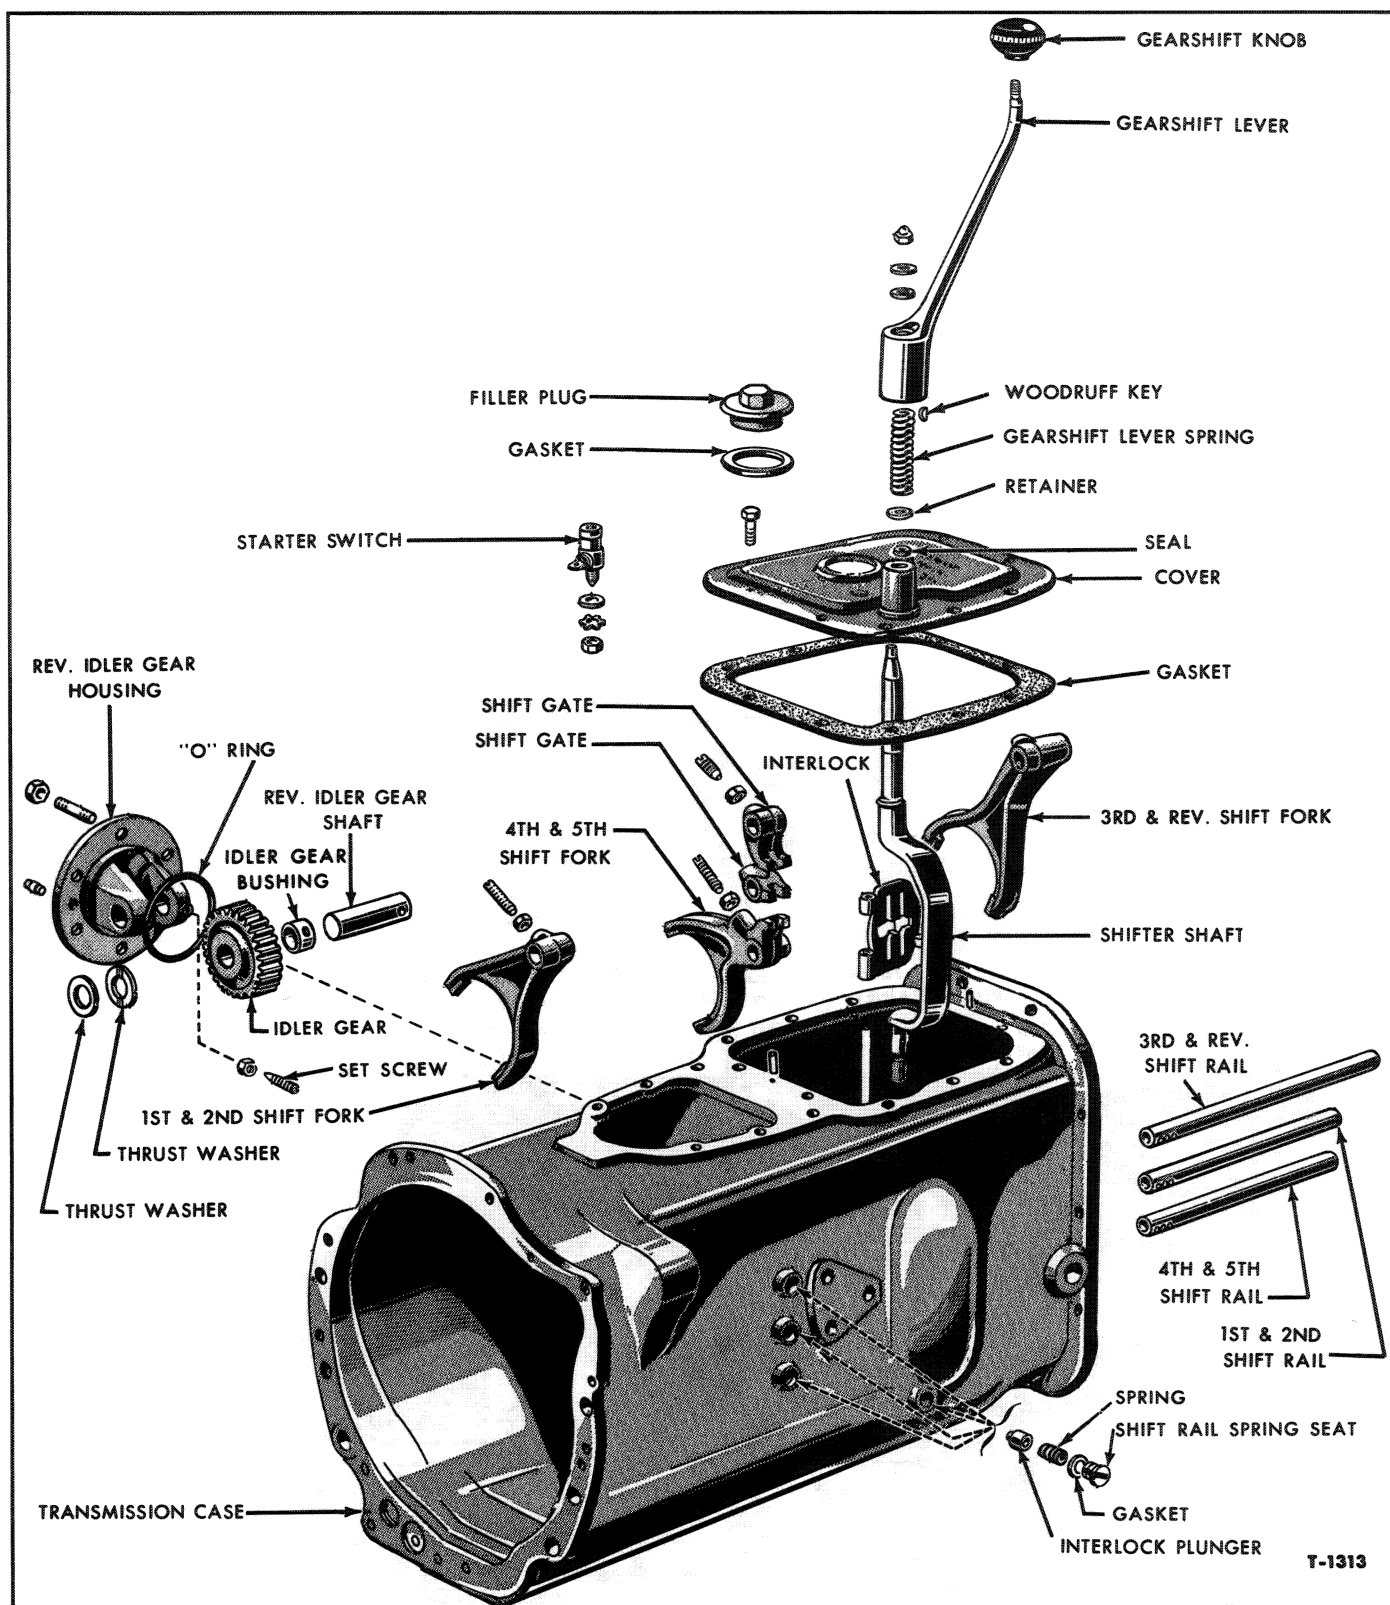

Figure 12—Gearshift Cover and Related Parts
2. Remove the transmission cover assembly and gasket, Figure 12.
11. Remove the three shift rail spring seats and gaskets from the left side of the transmission case and remove the springs and plungers, Figure 12.
17. Remove the interlock and hinge rod, Figure 12, by moving the rod up through the hole in the top
18. Remove the detent seat, gasket, spring, and plunger for the shifter shaft, Figure 12, from the left side of the transmission case, then remove the shifter shaft.